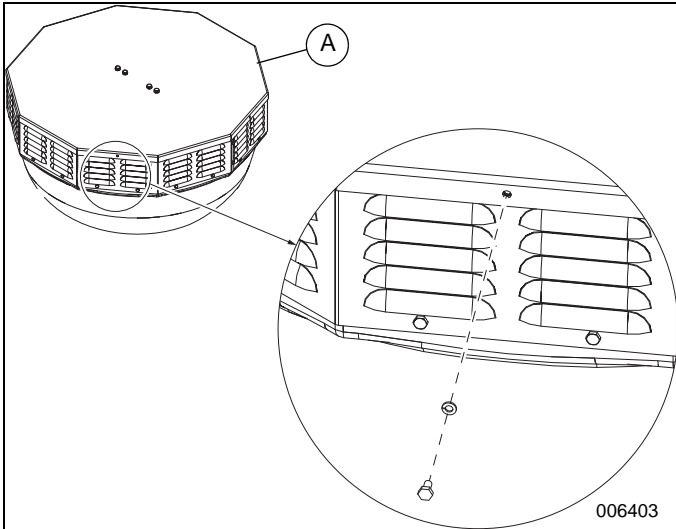

Figure 7. Hardware Removal—Side of Lid
1. See Figure 7. Obtain light fixture (A). Remove and retain hardware securing sides of lid.
- See Figure 7. Install hardware retained in step 2. Tighten to 75 in-lb (8.5 Nm).